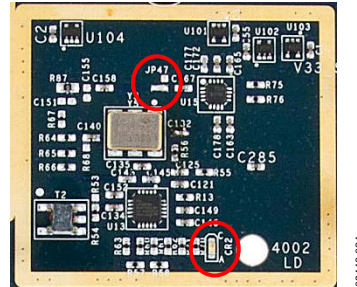

Figure 24. ADF4002 (2) Placement
**ADF4002 (2) Placement**
A photo of the ADF4002 (2) placement is shown in Figure 24. The reference input for the second ADF4002 (2) is a buffered version of the synthesized 122.88 MHz reference from the first ADF4002 cleanup stage. JP47 can be shorted to provide a 26.0 MHz external reference out of J1 to be used for instrument synchronization. The 26.0 MHz output of the second ADF4002 (2) is buffered with the ADCLK905 and distributed to both the ADF4350 and ADF4351 for Rx/Tx LO generation. When this PLL is locked, CR2 is illuminated.